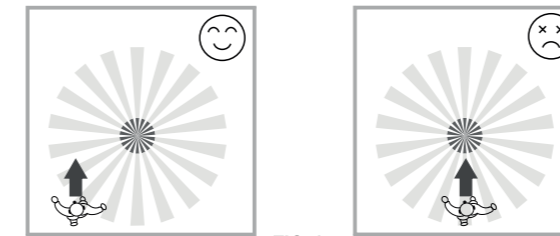

FIG. 3
3.1.2 Pay attention to the walking direction in the test proceeding. It is more sensitive to movement across the detector and less sensitive to movement directly toward to detector which will reduce the detection coverage (See FIG.3).